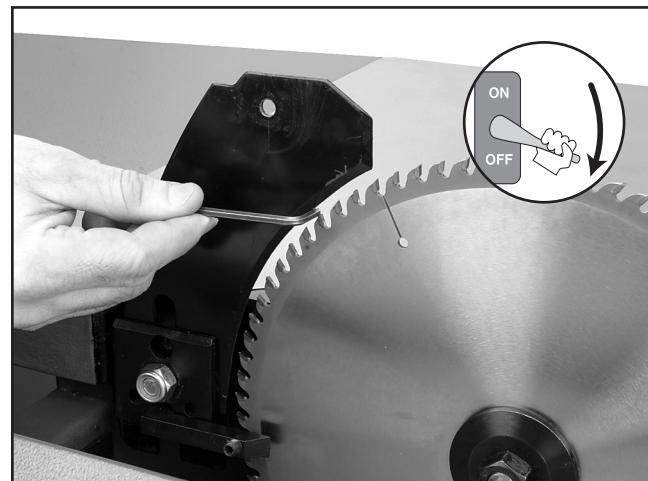

Figure 34. Adjusting the riving knife.
3. Position the riving knife about 3mm or $\frac{1}{8}$ " away from the nearest carbide tooth on the main blade. **Note:** *For a quick gauge, use the 3mm hex wrench to find the correct spacing between the blade and the riving knife, as shown in **Figure 34**.*